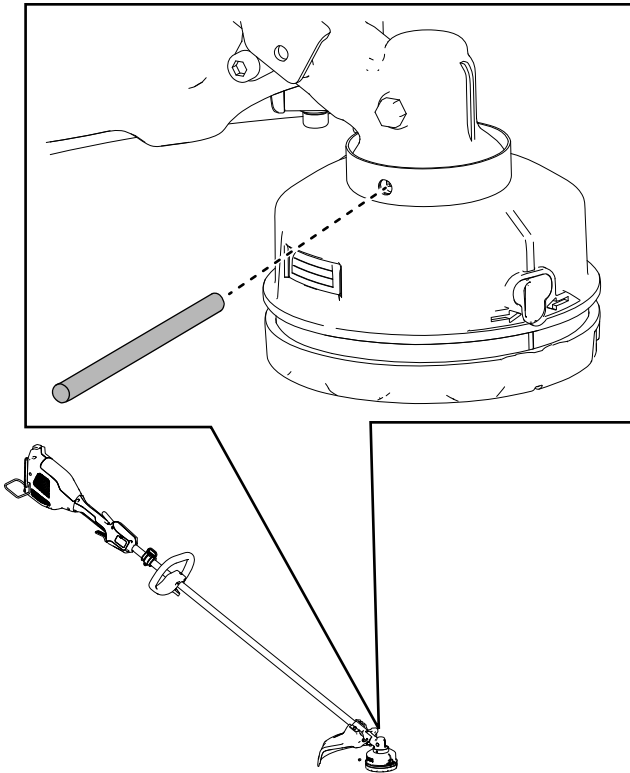

Figure 15
2. Align the hole in the cup plate with the hole in the trimmer gearcase (Figure 15).
3. Insert the included metal rod through the cup plate and into the hole in the trimmer gearcase to secure the trimmer head (Figure 15).